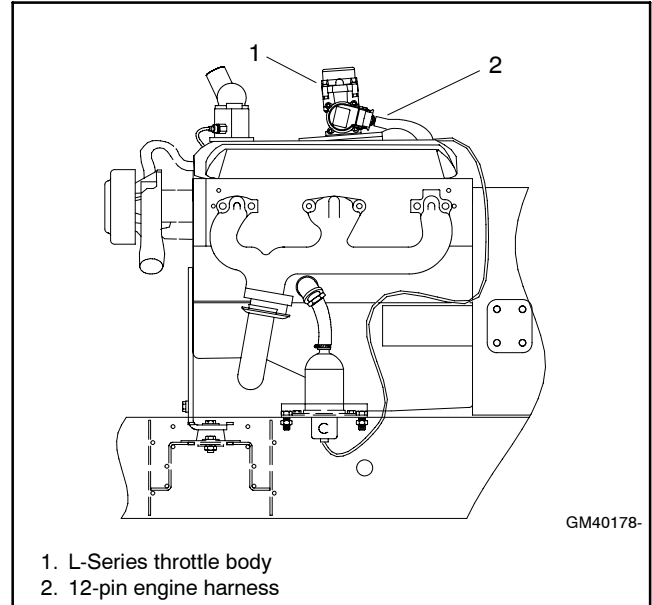

Figure 1 12-Pin Connector at the Throttle Body, Typical
- 2.4 Locate and disconnect the 12-pin engine harness connector at the throttle body. See Figure 1.